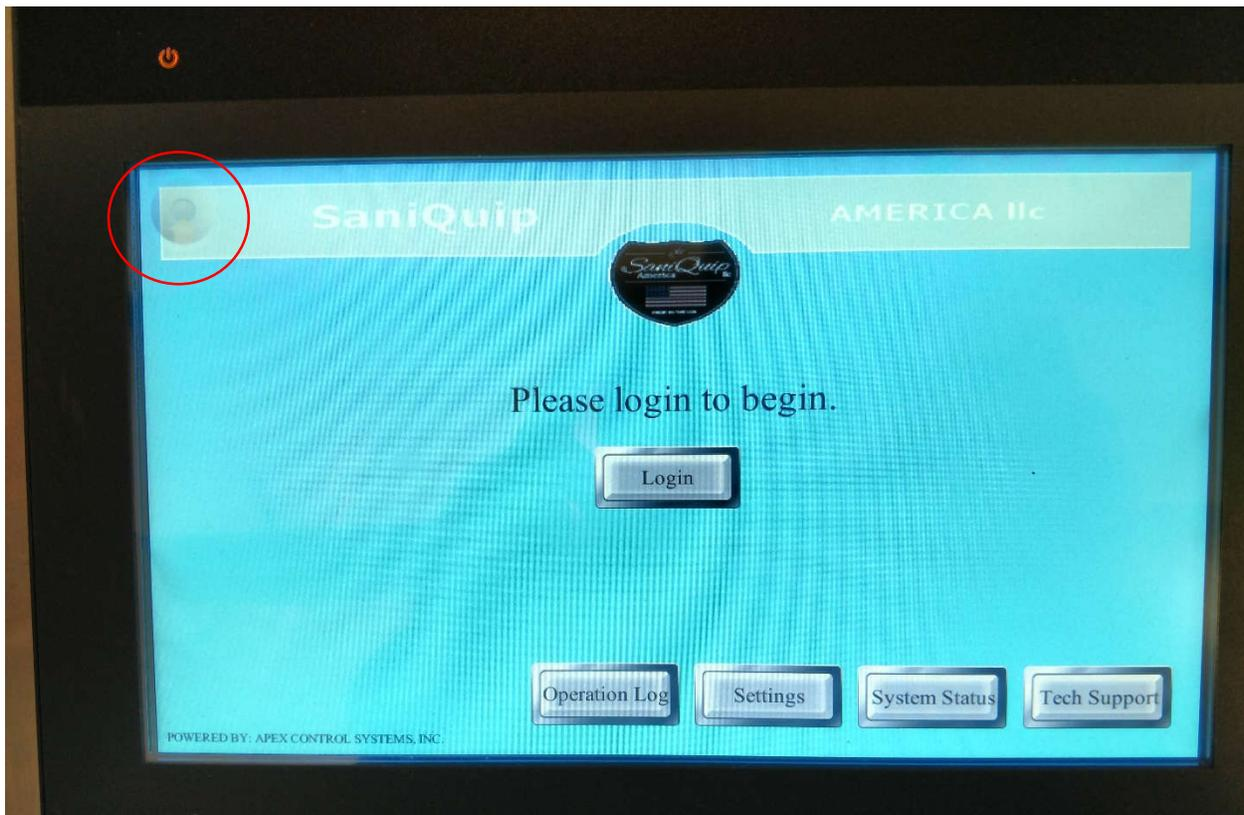

FIG.1 Internal Menu Access
1. Press the icon in the upper left corner to open the internal device menu. This is shown in fig.1.